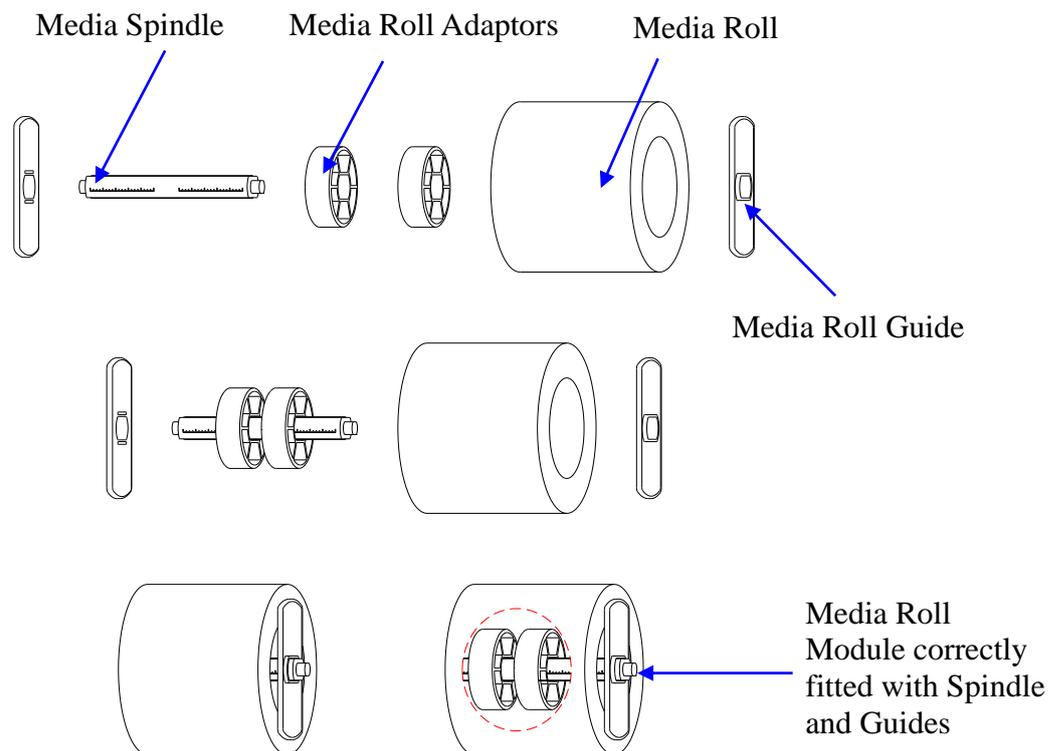

Figure 2-9 Place Media Roll on Media Spindle
1. Load a roll of media (labels facing up) on the Media Spindle, then slide the two Media Roll Guides, with smooth sides facing toward the media, onto the Media Spindle from each end until both Media Roll Guides touch the media. When placing a roll of media with a 3" ID core, please slide the two Core Adapters onto the Media Spindle first, as shown in Figure 2-9.